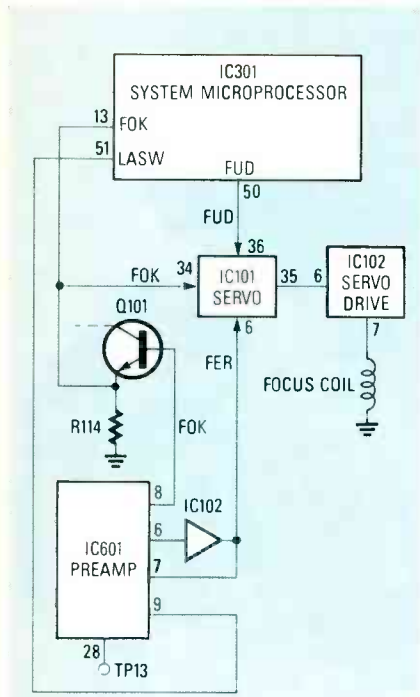

FIG. 29—THIS DIAGRAM should be used to help track down the cause of focusing problems.
4. Pickup does not focus properly. Figure 29 is the troubleshooting diagram. When play first begins, the focus actuator coil receives a focus up-down (FUD) signal from IC301 through IC101 and IC102. Those FUD pulses move the focus actuator up and down two or three times as necessary to focus the beam on the disc. Once focus is obtained, a focus-ok (FOK) signal